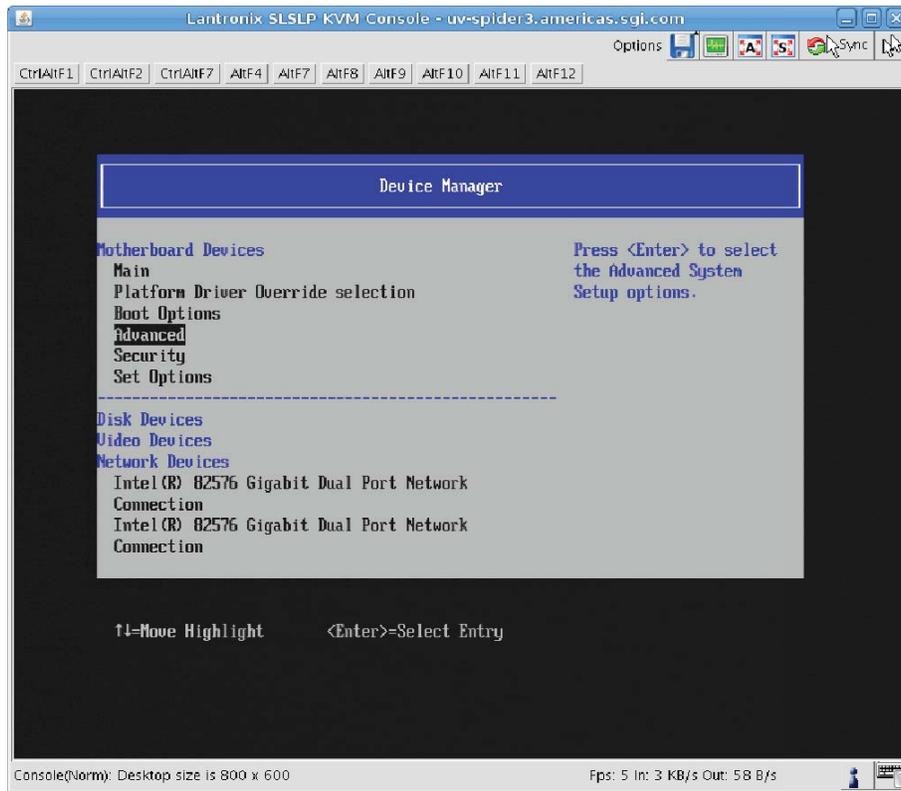

Figure 2-4 Device Manager Screen
4. From the **Device Manager** screen, as shown in Figure 2-4 on page 31, select **Advanced**.